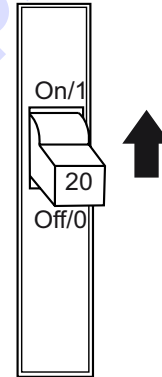

Figure 75. GFCI Circuit Breaker
2. Place a **GFCI circuit breaker** (Figure 75) in the **ON** position.